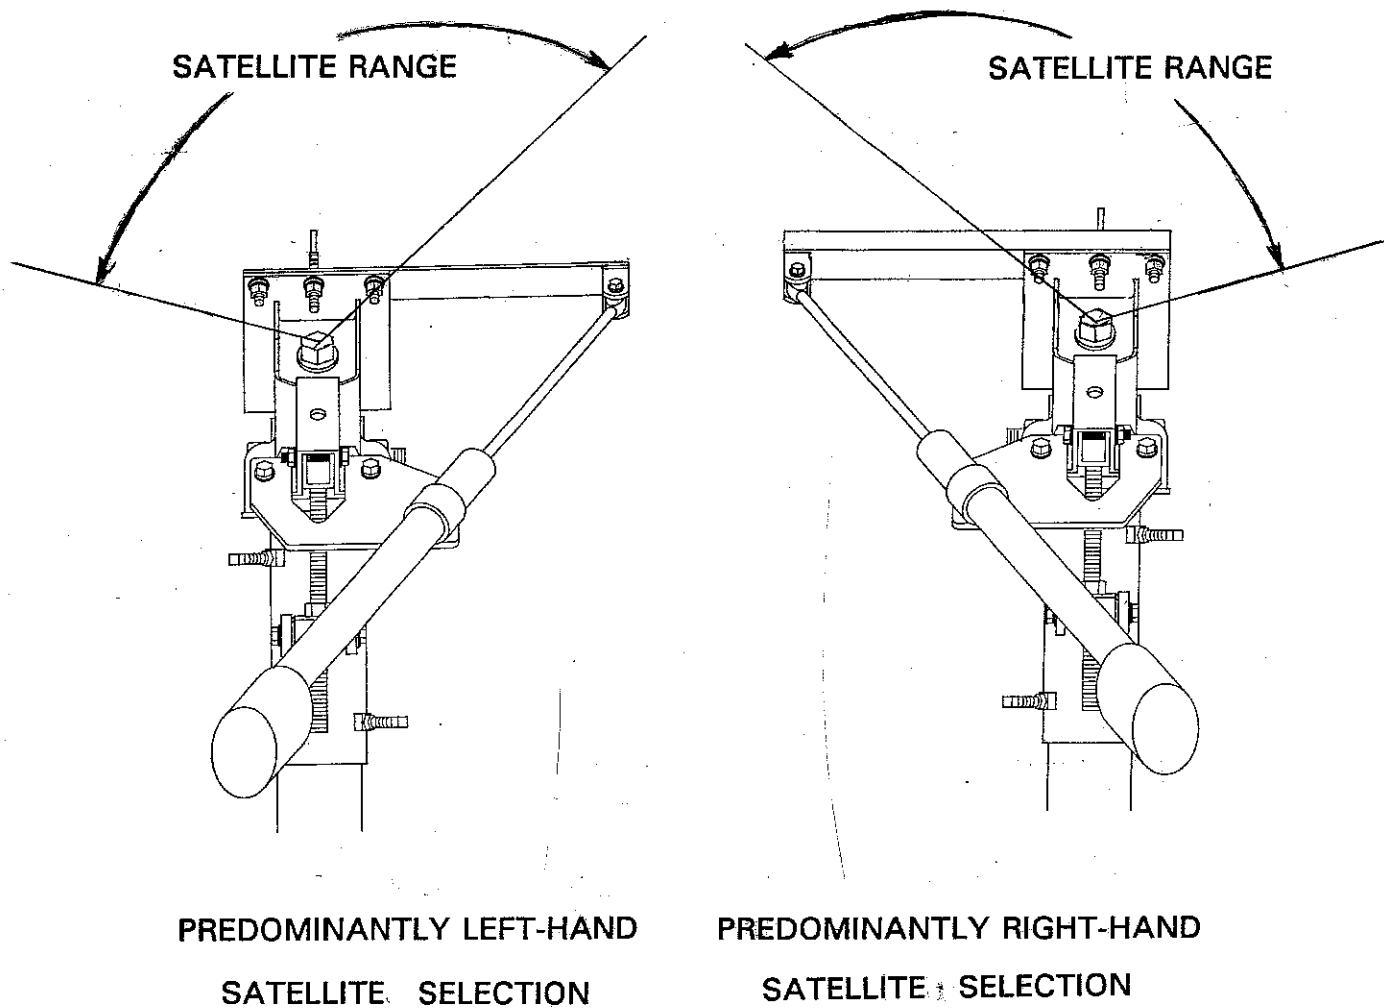

FIGURE 2.1-1
The actuator must be ordered separately with this antenna system. All parts and hardware installed in step 4 or 5 (except the actuator itself) come in a separate kit with the antenna system. The actuator type must be specified when ordering the antenna system to ensure the correct actuator parts kit. Refer to figures 2.1-1 thru 2.1-3 and the parts list for this section and follow the instructions in the listed sequence. Tighten hardware as instructed.
**NOTE:** The actuator may be mounted on either side of the mount. If your satellite selection is predominately to the left of the antenna site location, set the actuator up in the left-hand configuration (as detailed in this manual). For satellite selection predominately right of the antenna site, the actuator mount plate and actuator mount angle can be flipped over 180° to position the actuator on the left side of the mount. See figure 2.1-1 before proceeding.